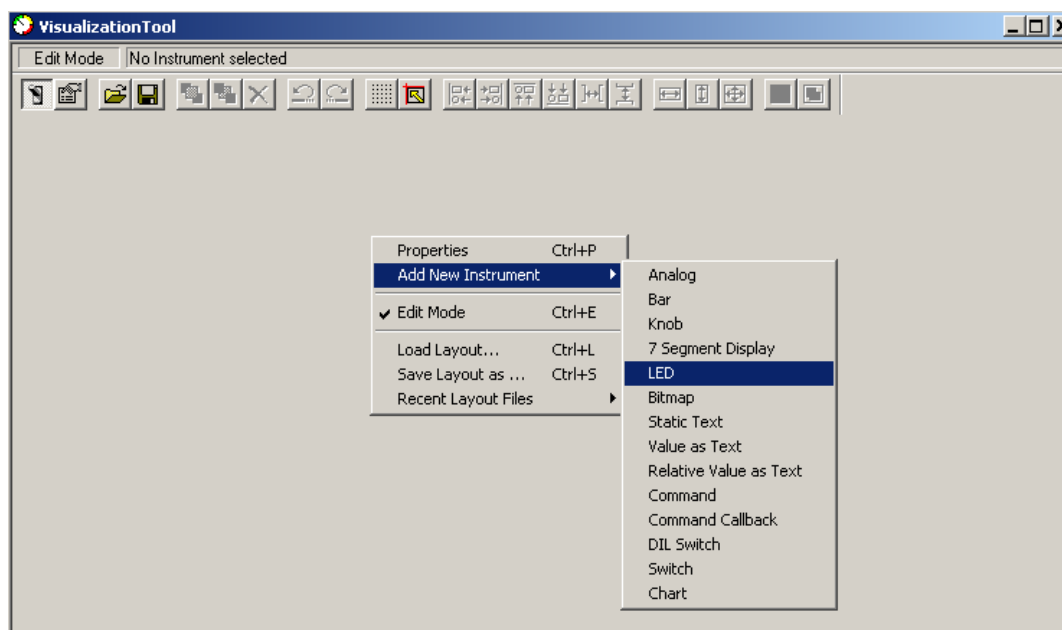

Figure 35. VisualizationTool
3. Place the cursor somewhere in the middle of the screen and right-click. Select **Add New Instrument >LED**. See Figure 35.